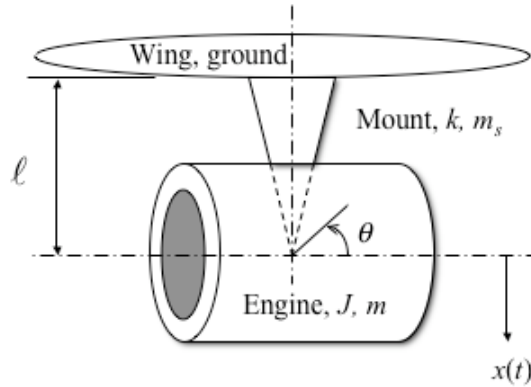

Figure P1.63
- 1.63** Use Lagrange's formulation to calculate the equation of motion and the natural frequency of the system of Figure P1.63. This figure represents a simplified model of a jet engine mounted to a wing through a mechanism which acts as a spring of stiffness k and mass m_s . Assume the engine has inertial J and mass m and that the rotation of the engine is related to the vertical displacement of the engine, $x(t)$ by the "radius" r_0 (i.e. $x = r_0\theta$).